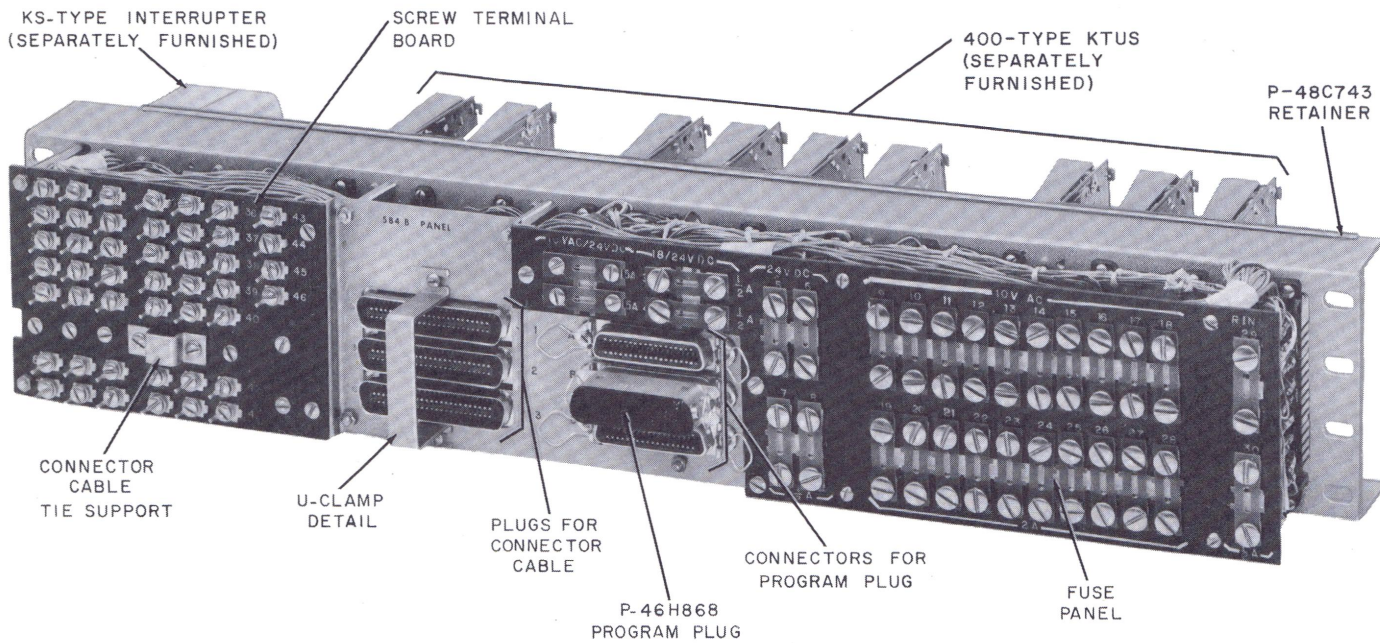

Fig. 3 — 584B Panel, Rear View
2.09 The 584B panel (Fig. 3) is similar in capacity and function to the 584A panel. Neither the 400-type KTU line circuits nor the KS-interrupter are supplied with the panel. Principal features include:
2.11 All line and station wiring is factory wired from the receptacles to three 50-contact KS plugs numbered 1, 2, and 3 (Fig. 3) on the